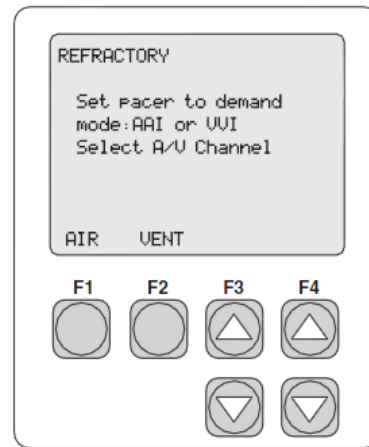

Fig 11
- Press “F2” for “Atr”. (Fig 11)